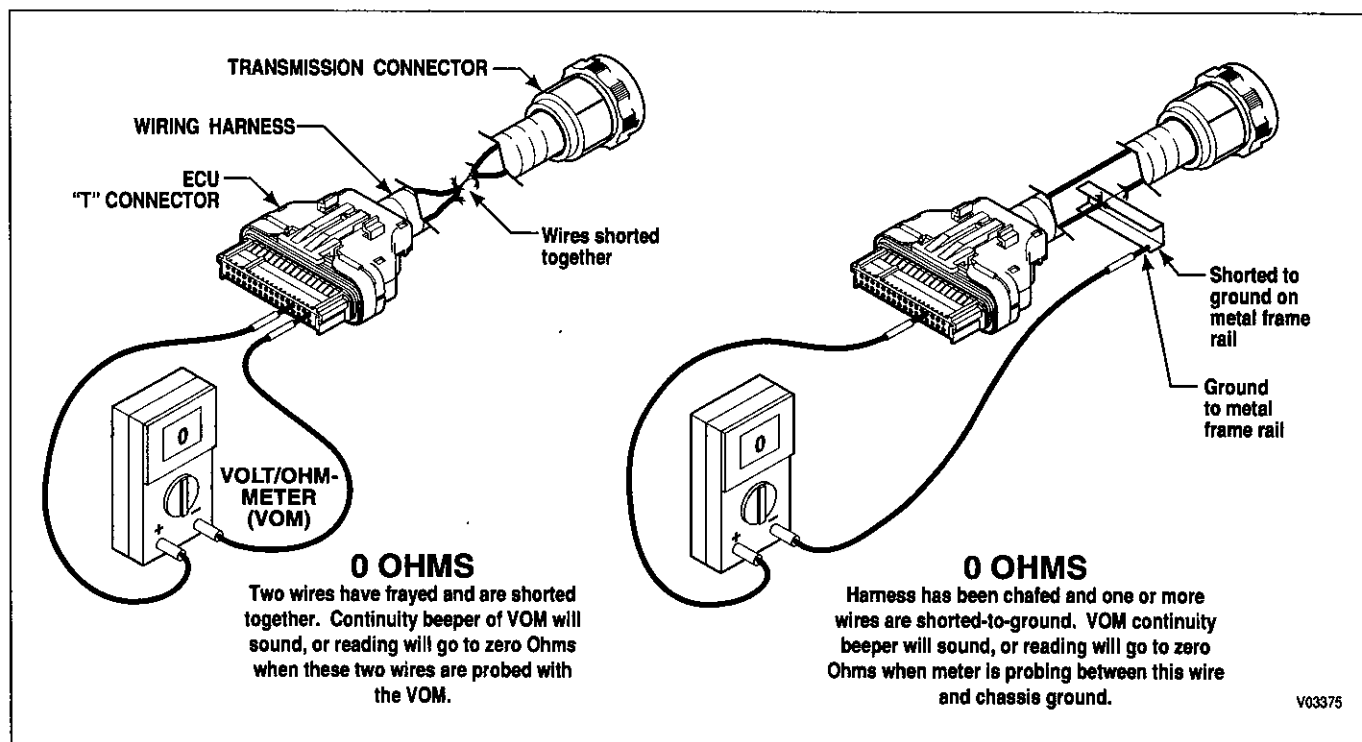

Figure 4–2. Short Between Wires and to Ground
- (2) On the opposite end of the harness, check the continuity of the jumpered pair. No continuity in a jumpered pair circuit (infinite resistance reading) indicates an open in the wire being tested. Locate and repair the damaged portion of the wire.
- b. If the continuity check is good (0–2 Ohms resistance), remove the jumpers. Check the harness for shorts between wires and shorts-to-ground by performing the following (refer to Figure 4–2):
- (1) At the ECU end of the harness, touch one VOM probe to one wire of the circuit being tested and touch the other probe to each terminal in the same connector, then touch the probe to chassis ground and to the transmission main housing. Do this for both wires in the circuit being tested.
- (2) If at any time the VOM shows zero to low resistance, or the meter's continuity beeper sounds, there is a short between the two points being probed — wire-to-wire or wire-to-ground. Isolate and repair the short.
3. If the connectors are clean and connected correctly, determine which wires in the harness to test. Use the diagnostic code system schematic to locate the wire terminals. For this example, Code 41 12 indicates an open or short-to-ground in solenoid "A" circuit — wires 102-T1 and 120-T4 (refer to Figure 4–3 and 4–4).